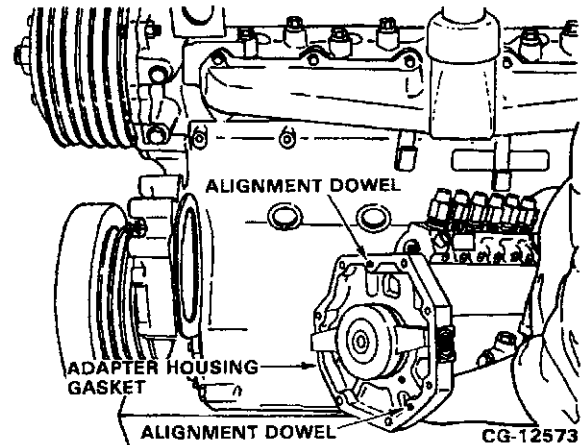

Figure 11.120. Install Injection Pump and Adapter Housing Assembly to the Front Plate
1. Install the injection pump and adapter housing assembly to the engine front cover plate using a new adapter housing gasket. Refer to Figure 11.120.